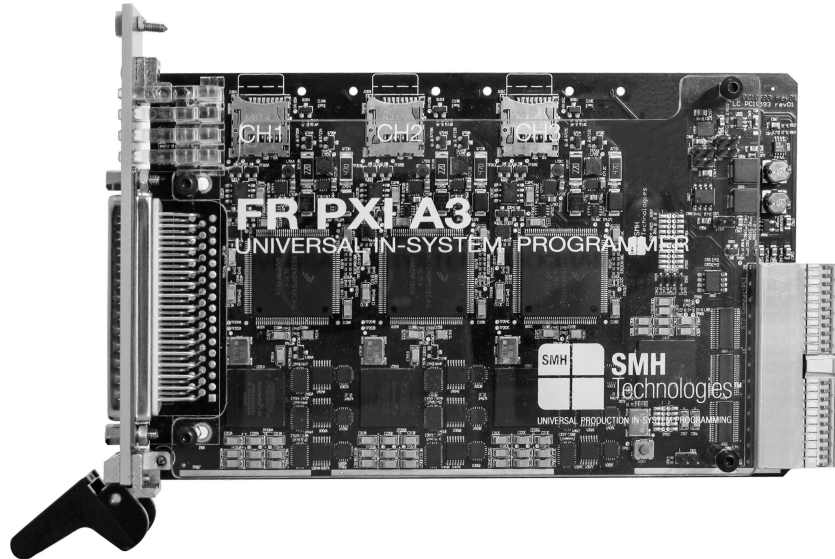

Figure 2: FlashRunner FRPXIA3 lateral view
- Figure 2: FlashRunner FRPXIA3 lateral view 14